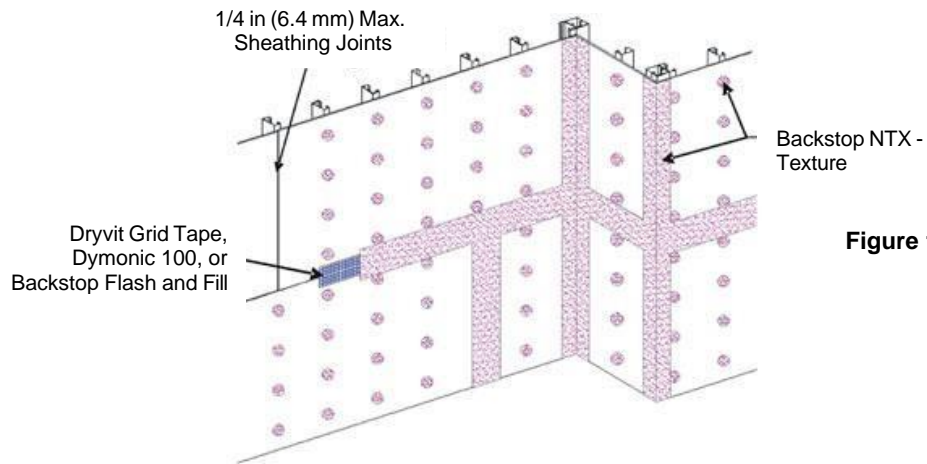

Figure 1
- Apply Dryvit Grid Tape as described in Section IV.E.1 above. Mix the Backstop NTX Texture material as described in Section I. Using a stainless steel trowel or spatula, apply a layer of Backstop NTX Texture over the Dryvit Grid Tape and spot all fastener heads – Figure 1.